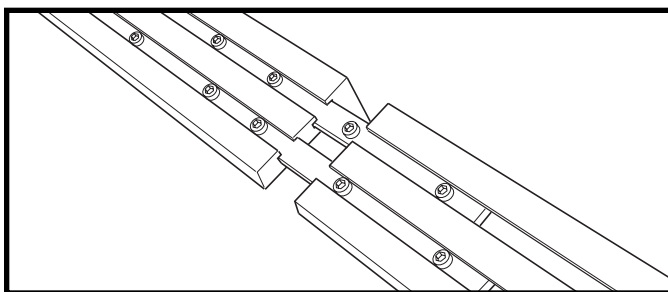

fig. 5 - Installing Fence Connectors
- Slide the fence connector bars into the slots of the fence (see fig. 5).